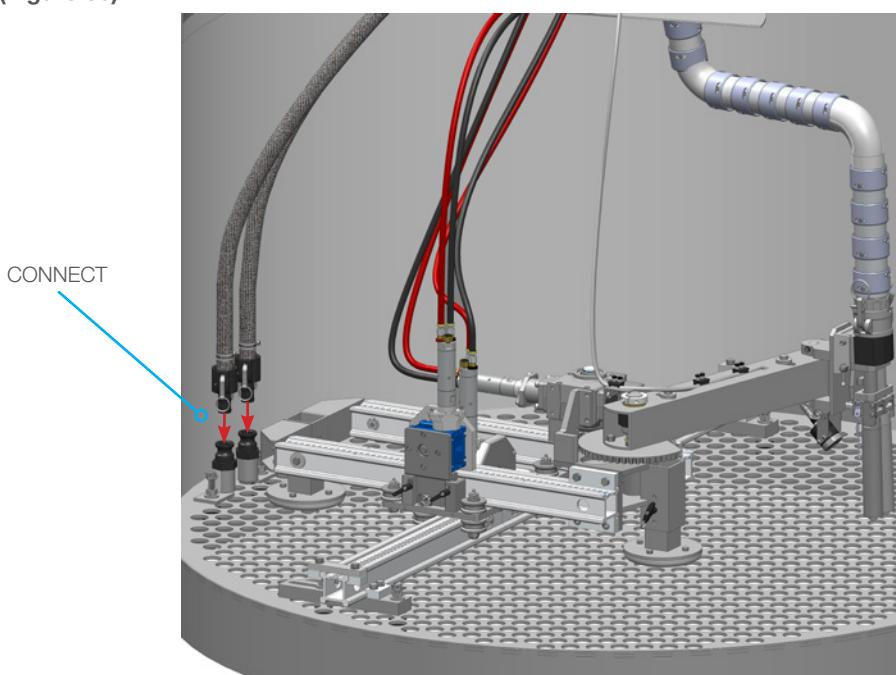

FIGURE 60
4. Feed the Dump Hoses into the Dome and connect the Female Camlock ends to the Male Camlock ends on the Dump Line Assemblies. (**Figure 60**)